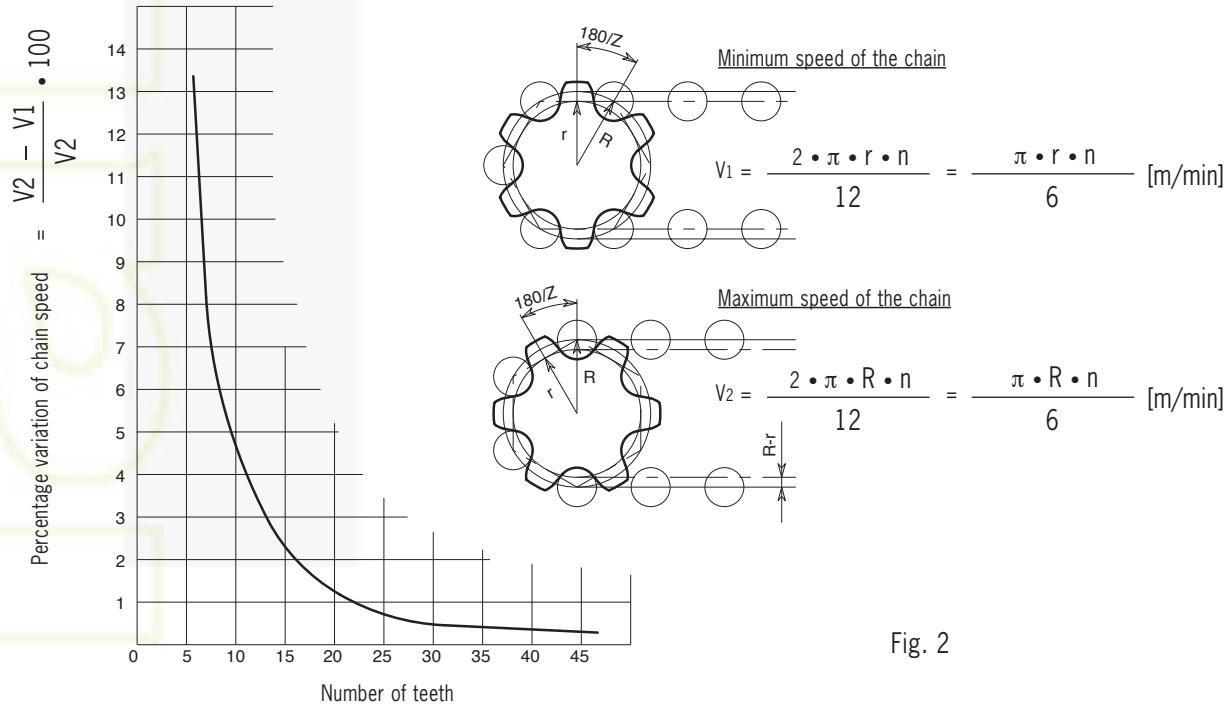

Fig. 2
- The polygonal effect, due to the gearing of the chain with sprockets, (shown in Fig. 2) can cause a small amount of chain surge. This can be more marked on long pitch chain with number of teeth below 8.